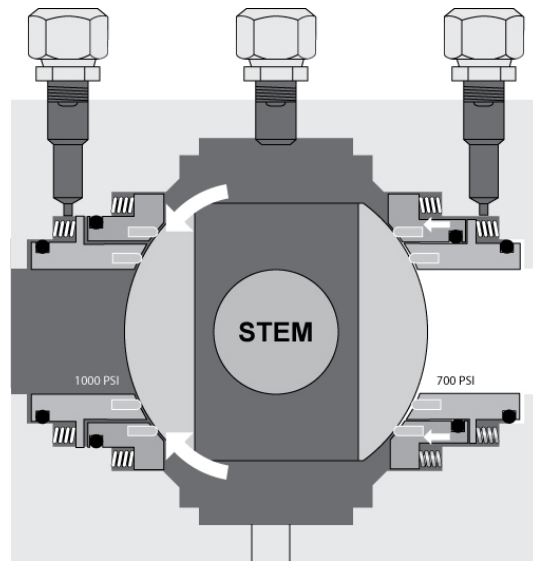

Figure 2
- c. By cycling the valve to bleed the body cavity pressure to the line. (See Figure 2 above)